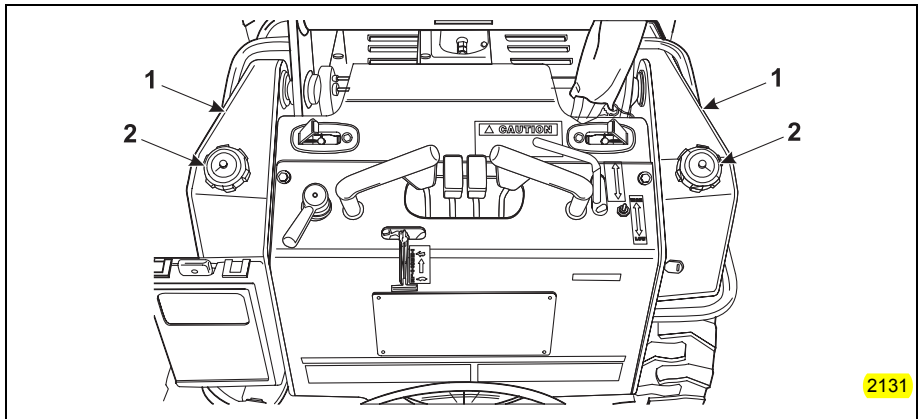

Figure 4-1 Fuel Level Check
- a. The Brute has a saddle tank (Item 1, Figure 4-1), on each side of the machine.
- b. Each of the tanks has a gas gauge located in the filler cap (Item 2, Figure 4-1). Remove cap and visually inspect fuel level to make sure that the indicator is showing the proper fuel level. Make sure that each tank has been filled on a daily basis. Carefully pour gas into the tank, not exceeding the max fill indication shown by the gauge in the fuel cap.